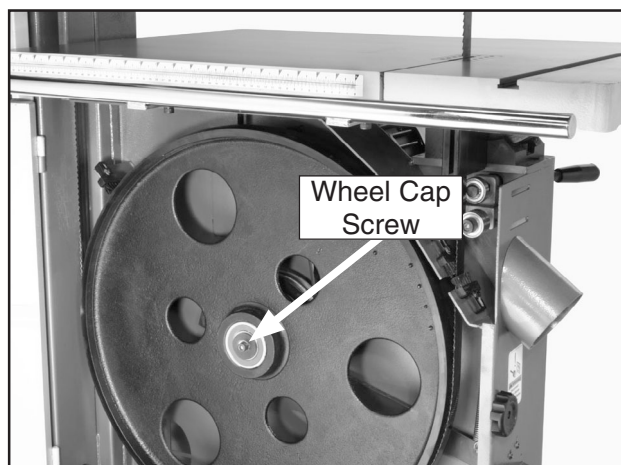

Figure 77. Wheel cap screw for removing the wheel.
4. Unthread the wheel cap screw shown in **Figure 77** and slide the lower wheel off of the bearing shaft.